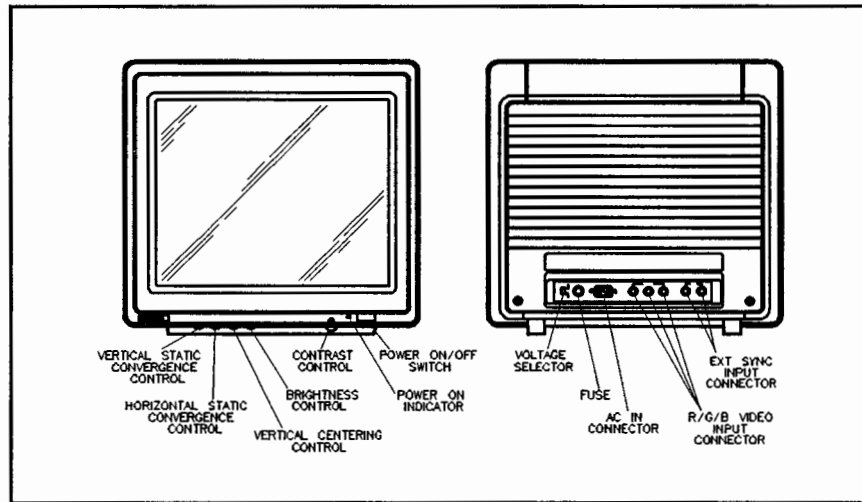

Figure 4-77. Operator Controls
8. *Turn on the monitor.* Figure 4-77 illustrates the operator controls for the HP 98782A Color Monitor.